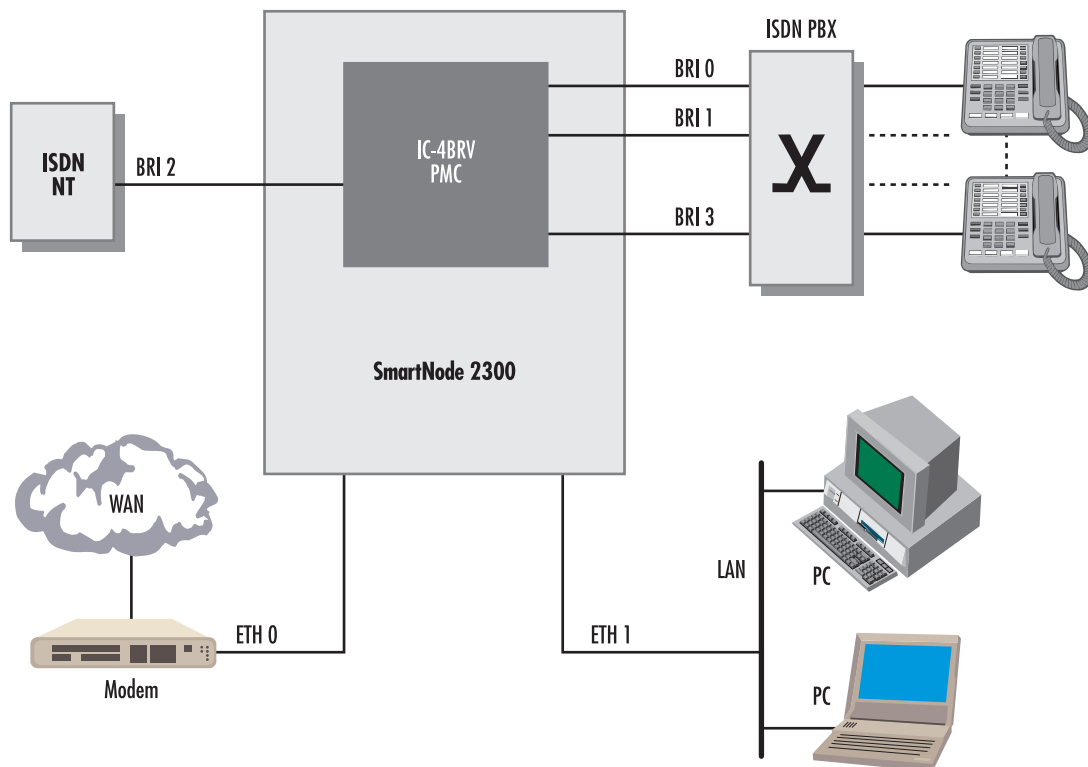

Figure 30. SmartNode 2000 Series device connected to a PBX via three BRI ports with fallback to PSTN with one BRI in an SME environment
Figure 30 depicts a SmartNode 2000 series used as a voice gateway and IP router in an SME situation. The optional IC-4BRV interface card's BRI 2 port is used as an ISDN fallback interface. In case of a power failure, equipment connected to port BRI 1 is bypassed with a relay to interface BRI 2. It remains operational even if the SmartNode 2000 series is not powered. Three ports of the PBX are connected to the remaining BRI ports of the IC-4BRV interface card, providing up to six concurrent ISDN B-channels. The voice data is transferred via the integrated voice gateway in the SmartNode 2000 series over Ethernet port ETH 0/0. Depending on the call procedures defined by the software running in the SmartNode 2000 series, voice data is formatted as H.323 compliant or as ISoIP voice streams.
- Figure 30 on page 51